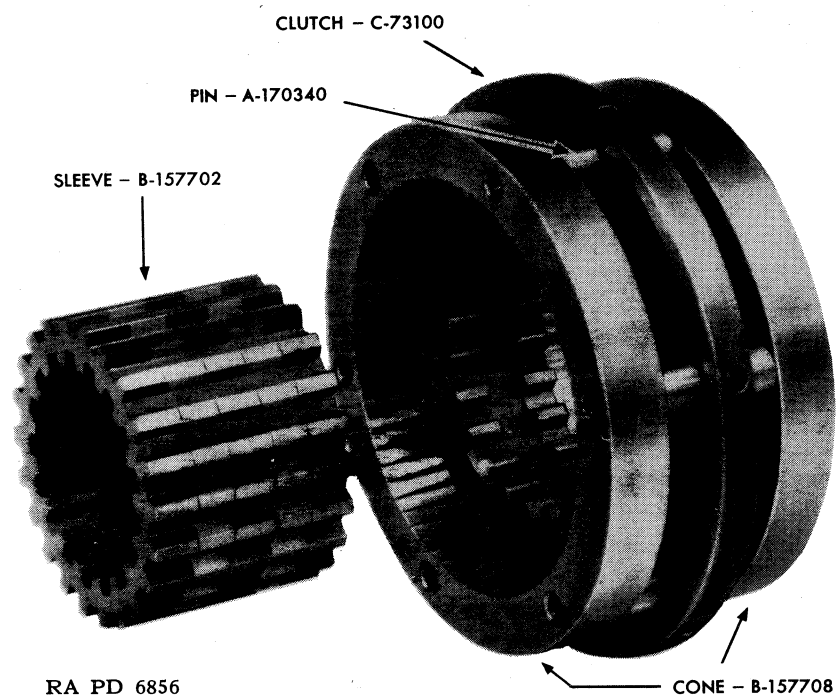

FIGURE 55—Second and third gear synchronizer and sleeve.
(2) Sludge from transmission or rear axle oil forms a hard deposit in the bearings and requires a thorough soaking and washing in solvent to remove. This deposit makes a bearing feel rough because it clings tenaciously to the ball and race surfaces.
26. *Synchronizers (figs. 55, 56 and 57).*—a. *General.*—The two synchronizer assemblies are similar in appearance and action but differ in that the second-third gear synchronizer is larger and rides on a sleeve
b. Inspection (fig. 55).— The nature of the assembly makes it possible and important that the synchronizer be examined before disassembly. Wash thoroughly in clean solvent. Try the bronze plates on the cone of the related gear. If the gear cone is flush with, or extends beyond, the inner side of the bronze plate, replace the synchronizer. If the bronze plates show only slight scoring, and are otherwise serviceable remove the scoring with emery cloth and again check the plate for wear against the gear cone. Check action of poppet **PINS** (A170338) against cross pins. If the total assembly appears to be in serviceable condition, support it on first one plate and then the other and snap the clutch plate back and forth several times as a check against any roughness or malfunction that may have been overlooked in the first part of the inspection.